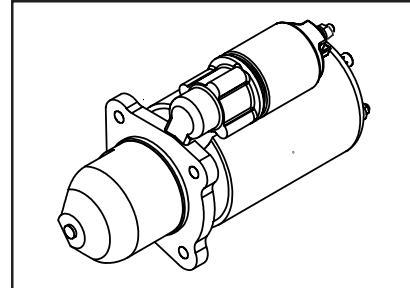

Fig.5-14
5.17 Starter Motor (Fig. 5.14)
5.19 Clutch Pedal (Fig. 5-14)
Excessive play reduces the disengaging travel of the clutch and could prevent the gears from being correctly meshed. On the other hand, insufficiently play could lead to abnormal wear on disengaging thrust bearing, overheating and rapid wear on the clutch itself. Free travel (A) (Fig. 5-14) measured on the pedal should be 20-25mm.